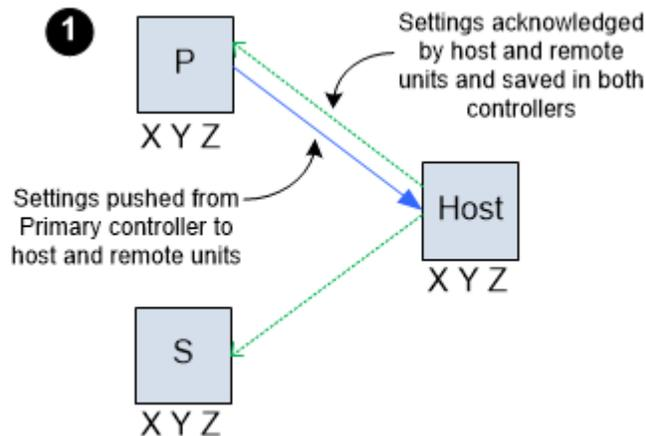

Figure 16-3: Primary Controller Management of Configuration Settings
For example, in Figure 16-3, the Primary controller (P) maintains the configuration settings (XYZ) and pushes them to the host and remote units. The host and remote units acknowledge the settings to the Primary and Secondary controller (S), keeping configuration data up to date on all units.